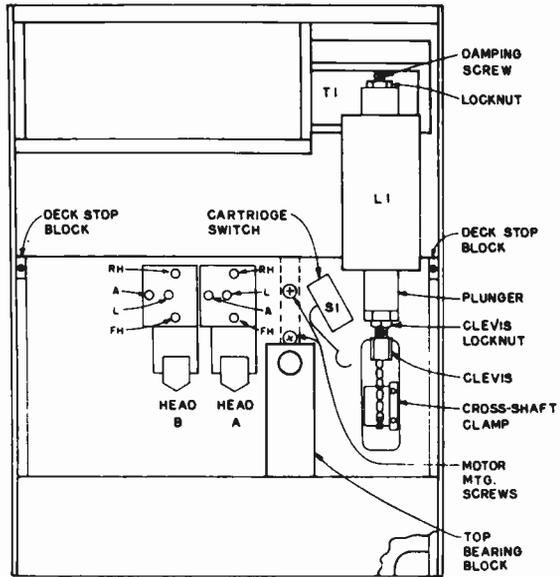
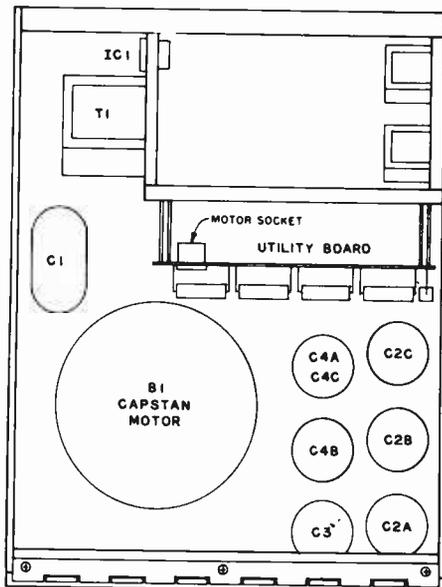

FIGURE 5-3
FIGURE 5-4
- (1) If the adjustment is incorrect, first loosen the bearing block mounting screws to make sure that the capstan shaft is not flexed.
- (2) If the adjustment is still not correct, loosen the screws in the deck stop blocks mounted on either side of the deck on the deck slides (see Figure 5-3), adjust the position of the deck so that the steel tool lies flat against the capstan shaft, and tighten the screws in the deck stop blocks.
3. Remove the capstan motor plug from the socket located on the utility board (see Figure 5-4), and actuate the cartridge sensing micro switch by pushing a piece of folded cardboard or other material between the switch's actuator arm and plunger (Figure 5-3).
4. Press the front panel START switch to energize the solenoid; loosen the screws in the cross-shaft clamp (Figure 5-3). The front panel must be bolted into its closed position when adjusting sliding decks "A" and "B." Adjust the clamp screws so that the clamp is snug on the shaft but can be moved with a small amount of force.
recording head, for maximum playback output level while recording the 15 kHz tone (see Figure 5-3).
Diodes CR1, CR2, CR3, and CR4 are a full wave bridge rectifier which furnishes 110 volts DC to the solenoid power supply filter. The dual section filter consists of R1, R9, and the two sections of C2. The diodes and resistors are located on the Utility Power Supply board (see Figure 5-4 for the board location) while the filter capacitors are mounted on the under side of Deck C, the bottom deck (see Figure 5-4). The output of 110 volts DC (under load) is switched by the parallel contacts 7 and 11 / 8 and 12 of control relay K1. A network consisting of C13 and R17 is across the coil of each solenoid L1 for transient protection when power is removed.
Transformer T1 provides low voltage AC (with the center tap grounded) to diodes CR6 and CR7, a full wave rectifier that supplies the input to the regulated power supply. Capacitor C3 acts as an input filter. The diodes and resistors of this power supply are mounted on the Utility Power Supply board (see Figure 5-4 for the board location) while the filter capacitors are located on the under side of the deck (see Figure 5-4).